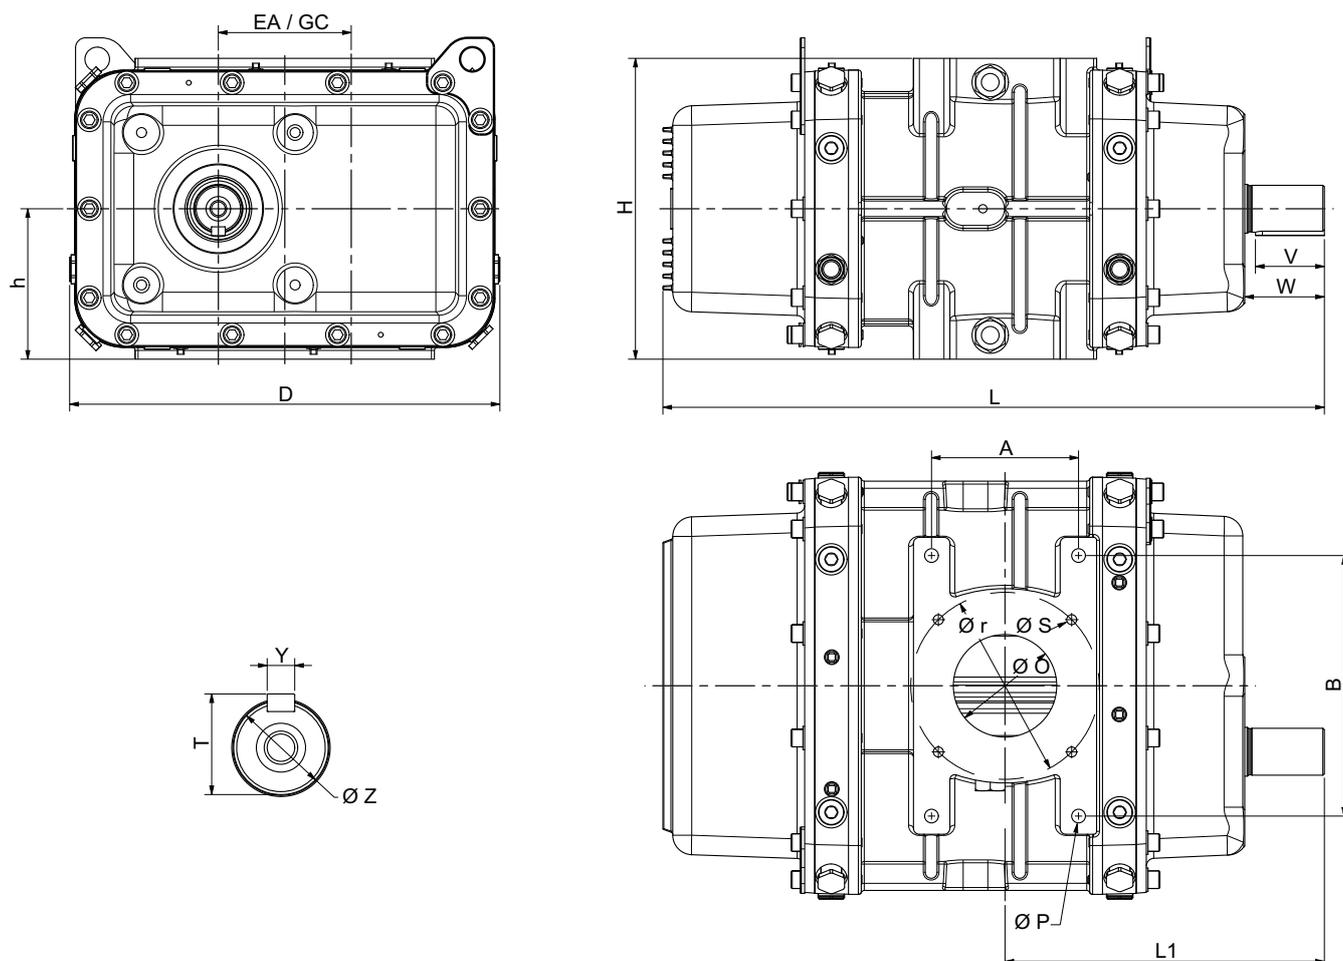

Figure 3 - Left and Right Hand blower dimensions
- You must design a suitable pipeline to fit the blower inlet/outlet connections. refer to Section 2.8 and to Figures 3 and 4 for the dimensions of the blower connections.